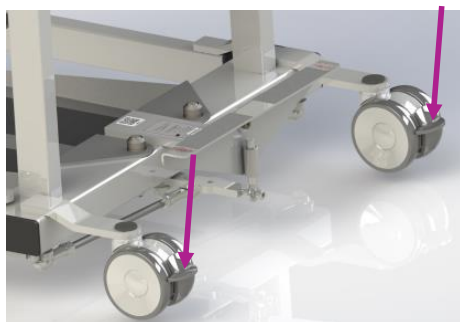

Figure 13
1. To activate the rear castor brakes, take your foot and push down vertically on the brake lever. (Shown in Figure 13).